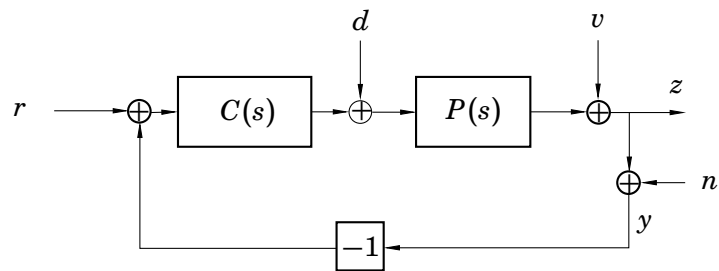

Figure 2.6 Feedback system in Problems 2.5 and 2.6.
2.5 Consider the feedback system in Figure 2.6, with
2.6 Again consider the feedback system in Figure 2.6, where the process, $P(s)$, is now given by